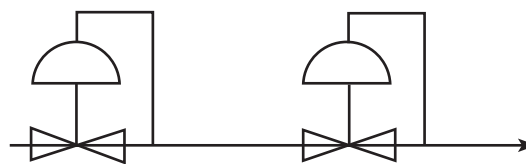

Figure 4. Series Regulation Schematic
- Series Regulation (Figure 4)